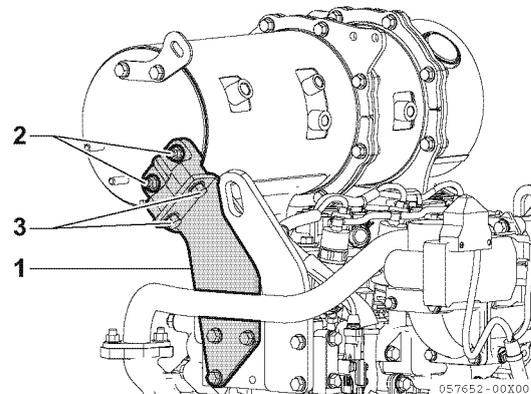

Figure 13-24
- Remove the DPF stay (1 **Figure 13-24**) fixing bolts (2 pcs.) (2, 3, **Figure 13-24**) on the other side. Stay configuration and numbers of bolts will differ depending on the model, but the method for fixing will be largely the same.